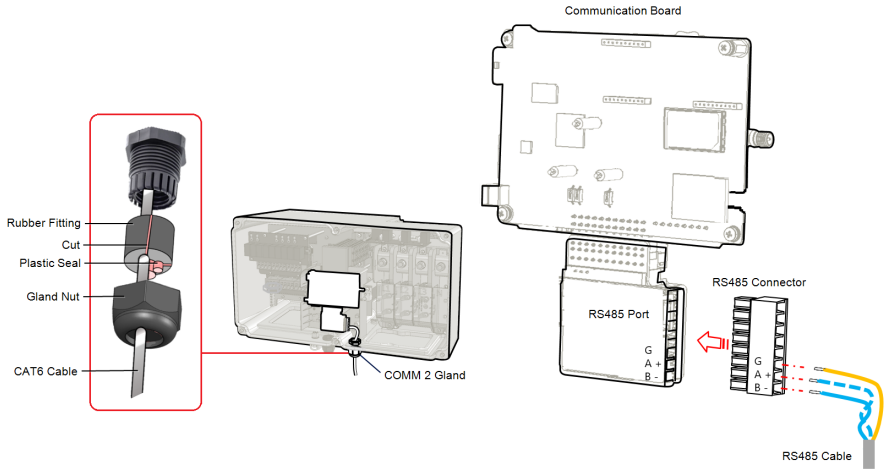

Figure 32: RS485 terminal block on the communication board
3. Pull out the 6-pin RS485 terminal block connector, as shown in *Figure 32*.